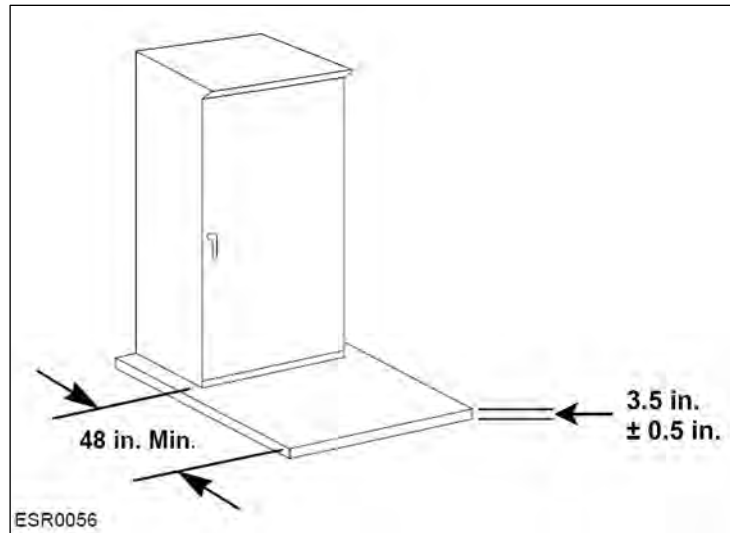

Figure 87: Concrete Pad in Front of Cabinet (Outdoor Metering)
- When installing outdoor switchboard metering, the customer must install a concrete pad with 48 inches of concrete in front of any cabinet that contains PGE equipment. Drainage must slope away from the cabinet. See **Figure 87** for details.